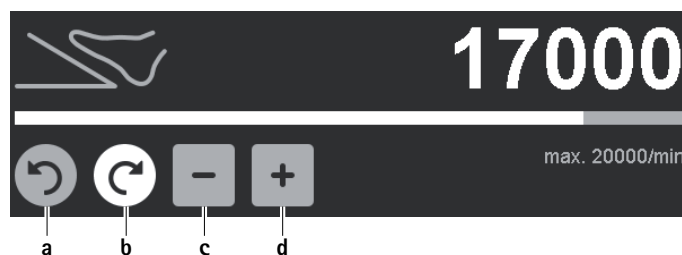

Fig. 6 Changing the maximum speed setting/rotational direction
- Change the rotational direction: Activate the inactive, gray rotational direction button for clockwise/counter clockwise **a/b**, see Fig. 6. The rotational direction is changed from clockwise to counter clockwise and vice versa.